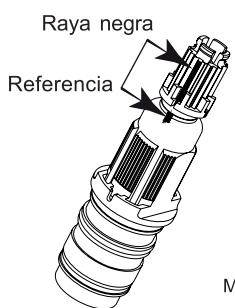

Fig. 6
- Check that the black line is correctly in line with the mark (fig. 6 and 7).
- Verificar que o traço negro seja correctamente alinhado com o sinal (fig. 6 e 7).